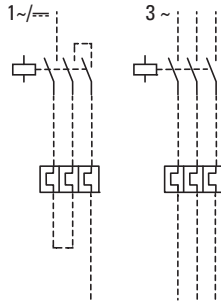

Figure 12: Main circuit wiring
► Connect the motor cables as shown in Fig. 12.